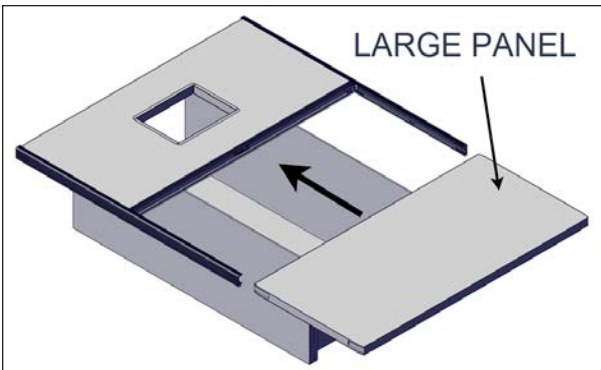

FIGURE 42: INSTALL LARGE PANEL INTO THE C-CHANNELS
- Slide the large panel (approx. 47" x 96" [119 cm x 243 cm]) into the C-channels. Ensure the I-beam has slid over the panel on both the bottom and top side (Figure 42).